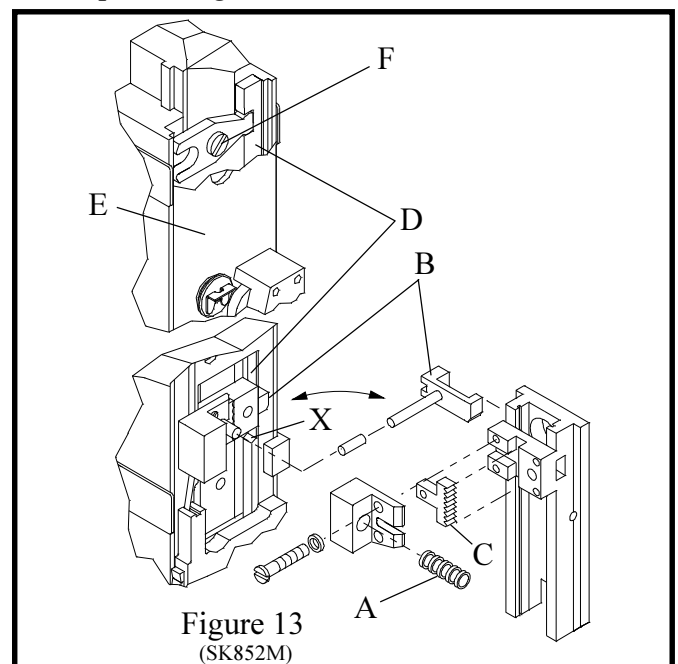

Figure 13
I. Grip, Grip Release Slide and Face Plate: (Figure 13)